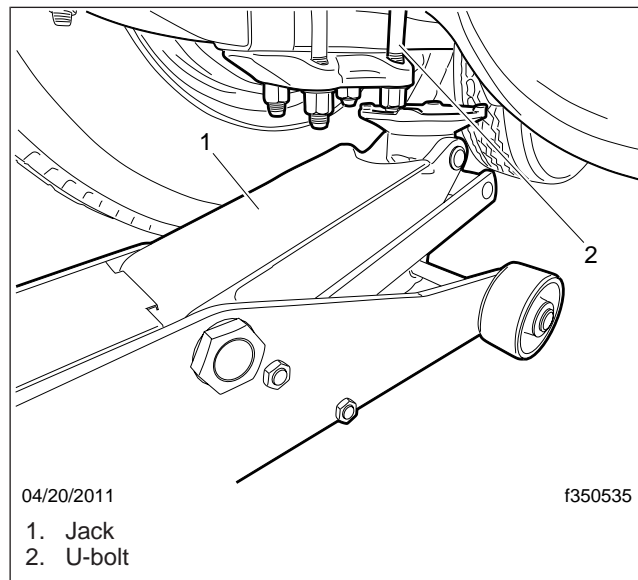
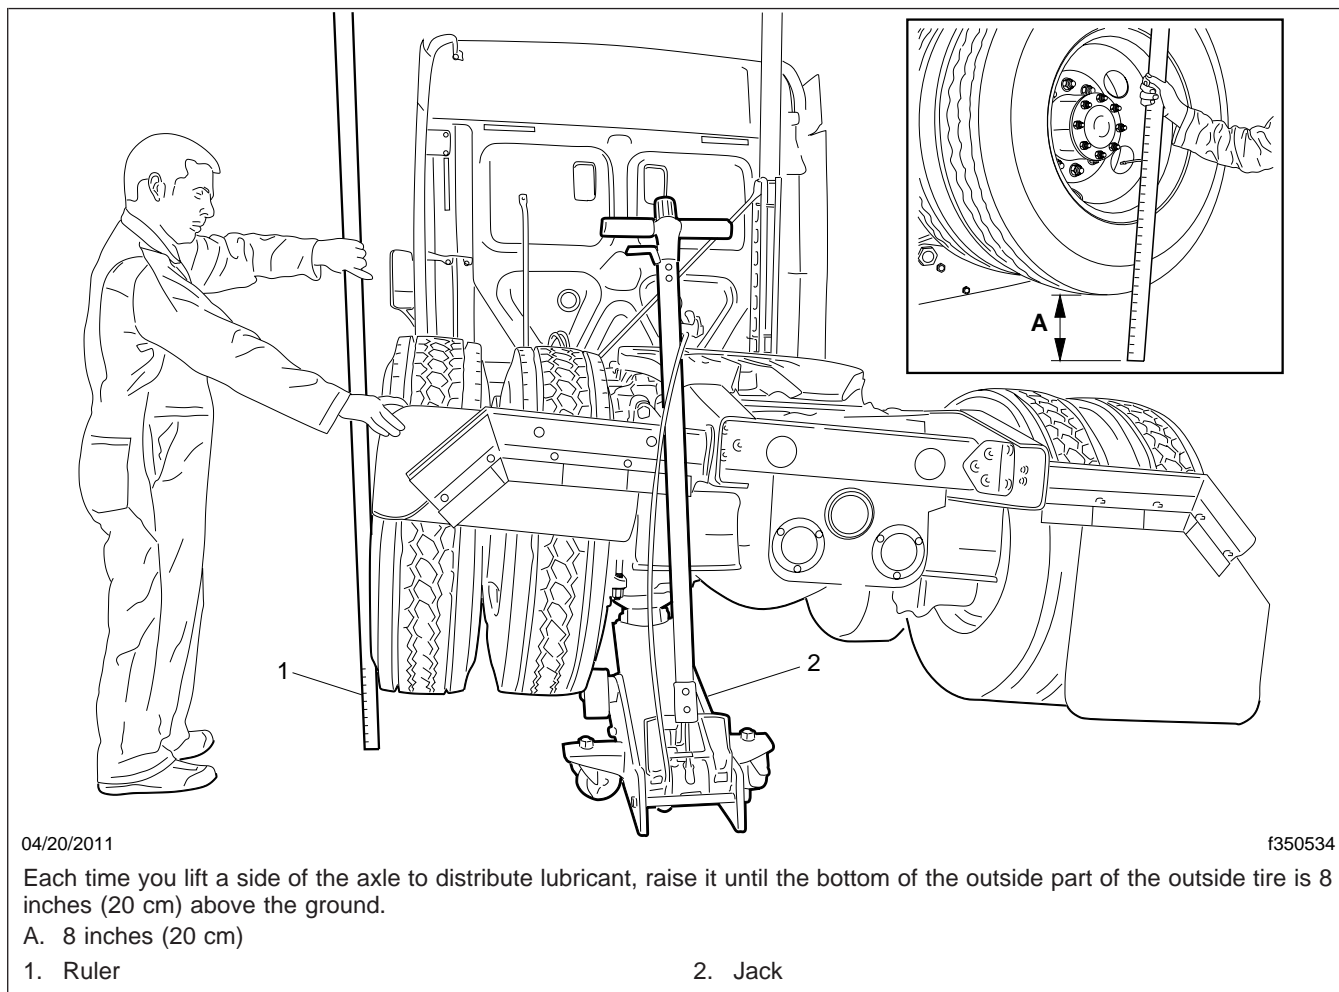

Fig. 7, Axle Lifted at Leaf Spring U-bolt
Fig. 8, Distributing Lubricant from Carrier Housing to Wheel Bearings for ConMet Hubs without Oil Fill Ports
- To tilt the axle, position a suitable jack at a leaf spring U-bolt, and raise it until the bottom of the outside part of the outside tire is 8 inches (20 cm) above the ground. See Fig. 7 and Fig. 8.